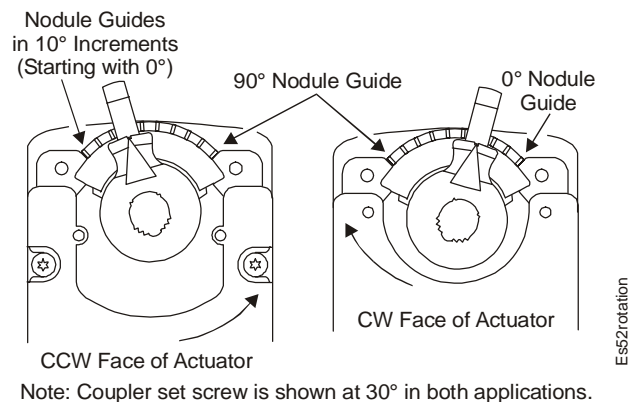

Figure 7: Actuator Set for 60° Rotation
- For a rotation range of 60°, move the coupler so the coupler set screw is at the 30° nodule guide (90° – 60° = 30°). See Figure 7.